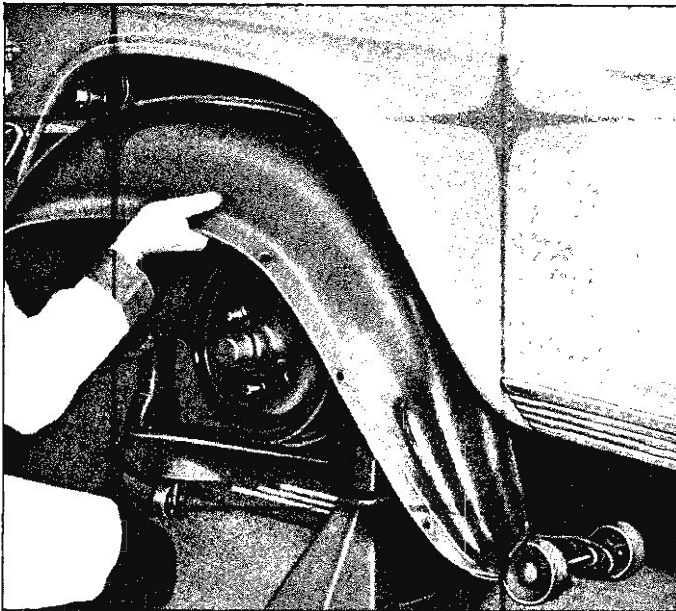

Fig. 109—Removing Front Fender Skirt
4. With all screws removed, lower the skirt toward floor, rotate the upper portion toward you and remove the skirt from the vehicle as shown in Figure 109.